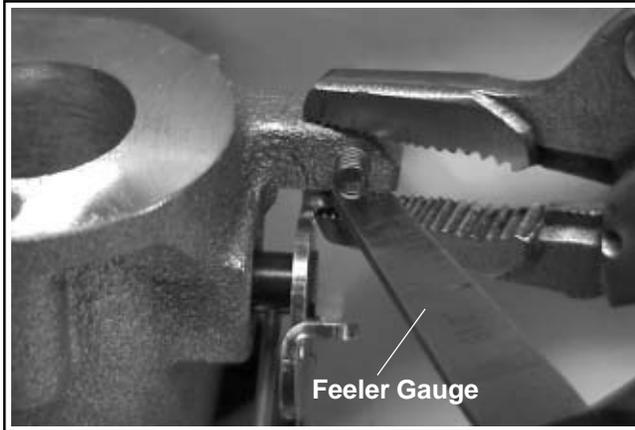

**Figure 5B-38. Throttle Details.**
- a. On engines without a stop screw, pivot the throttle shaft and plate assembly into the "Full Throttle" position. Insert a **1.52 mm (0.060 in.)** feeler gauge between the rear tang of the throttle shaft plate and the underside of the manifold boss. Use a locking pliers (needle nose works best) to temporarily clamp the parts in this position. See Figure 5B-39.